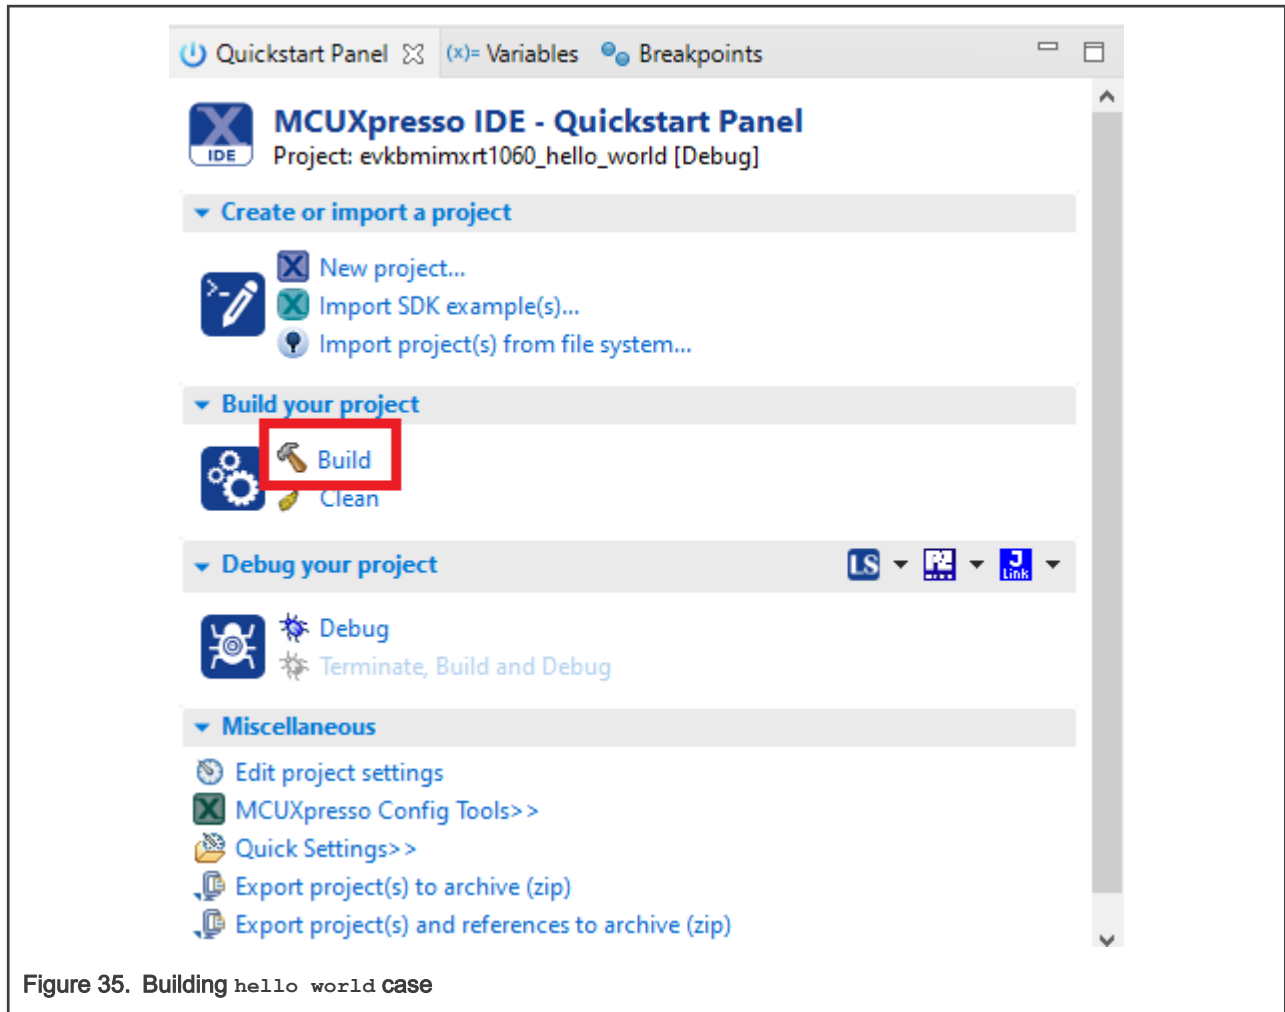

Figure 35. Building hello world case
- On the **Quickstart** panel, click **build evkbmimxrt1060\_demo\_apps\_hello\_world [Debug]** , as shown in Figure 35.